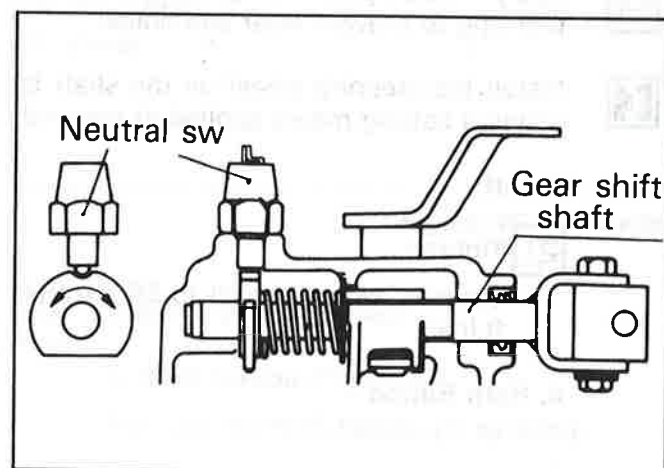

Figure 52. Neutral Switch
- Remove the neutral switch from the transmission (figure 52).